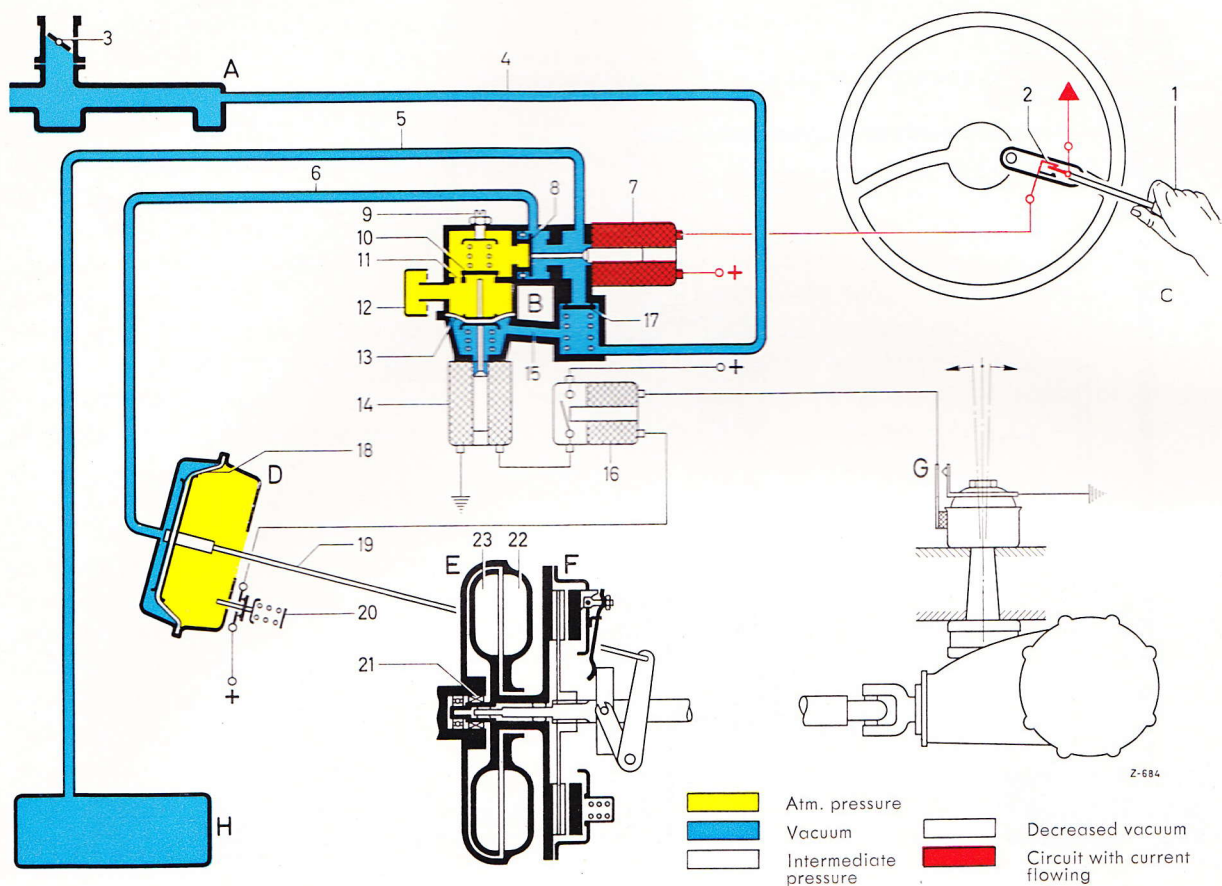

Fig. 25-0/9
As soon as the shift lever (1) is touched, the electrical contact (2) is closed and the electro-magnet (7) of the control element is energized. This causes the valve (8) to be thrust open so that the vacuum side of the servo assembly is connected to the intake manifold and / or the vacuum reservoir (Fig. 25-0/9).